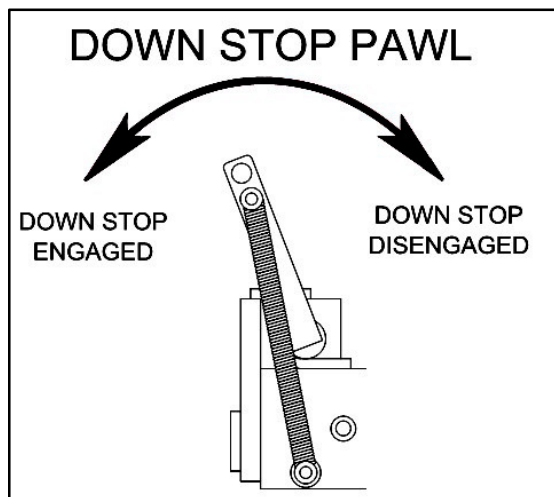

Fig. 13: Down stop pawl positions
3. Loosen the jam nut and turn the cap screw a few turns in the required direction. Clockwise raises the lift table, counterclockwise lowers it. (See Fig. 13 for identification.)